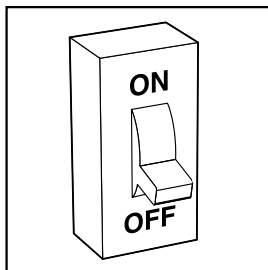

Fig. 6 - Turn Off Electrical Supply
3. Turn OFF electrical supply to the furnace. See Fig. 6.
3. Turn off electrical supply to the furnace. (See Fig. 6)